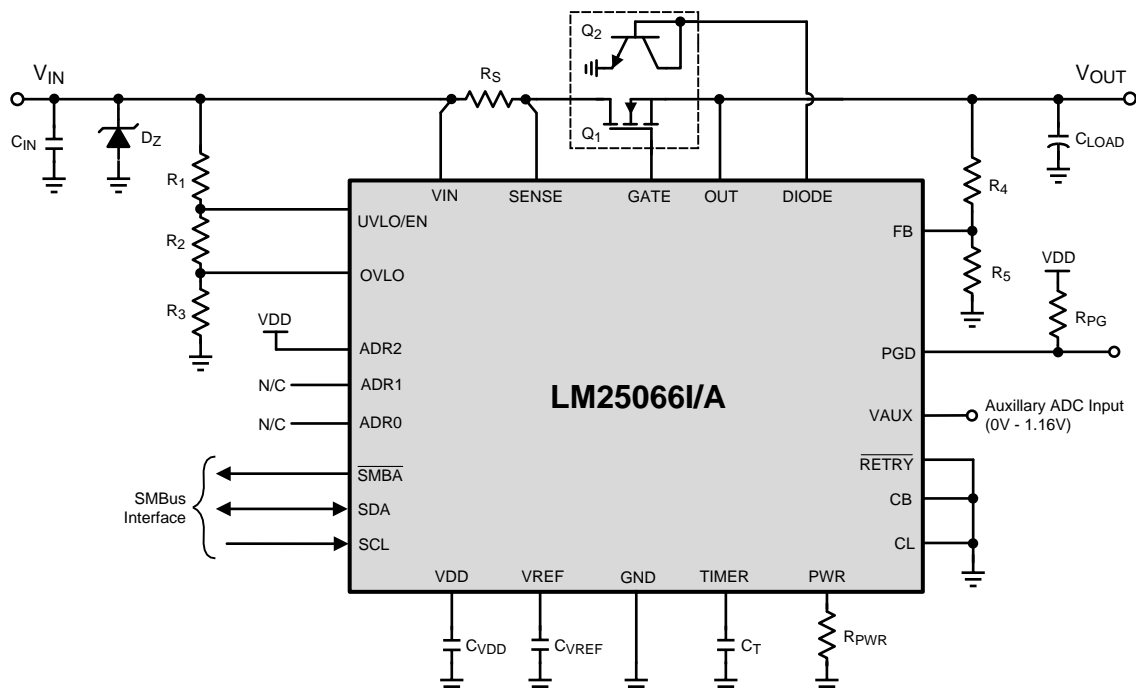
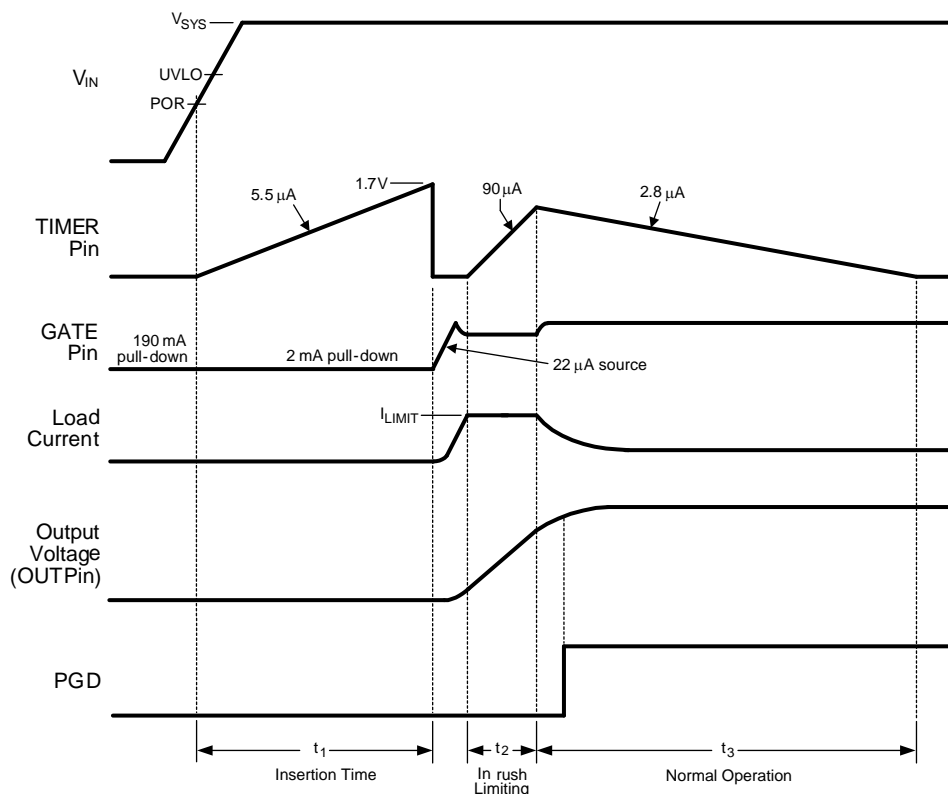

Figure 31. Typical Application Circuit
Figure 32. Power Up Sequence (Current Limit Only)
The V_{IN} operating range of the LM25066I/A is +2.9V to +17V, with transient capability to +24V. Referring to Figure 31 and Figure 32, as the voltage at V_{IN} initially increases, the external N-channel MOSFET (Q_1) is held off by an internal 190 mA pulldown current at the GATE pin. The strong pulldown current at the GATE pin prevents an inadvertent turn-on as the MOSFET’s gate-to-drain (Miller) capacitance is charged. Additionally, the TIMER pin is initially held at ground. When the V_{IN} voltage reaches the POR threshold, the insertion time begins. During the insertion time, the capacitor at the TIMER pin (C_T) is charged by a 5.5 μ A current source and Q_1 is held off by a 2 mA pulldown current at the GATE pin regardless of the input voltage. The insertion time delay allows ringing and transients at V_{IN} to settle before Q_1 is enabled. The insertion time ends when the TIMER pin
As the voltage at the OUT pin increases, the LM25066I/A monitors the drain current and power dissipation of MOSFET Q_1 . Inrush current limiting and/or power limiting circuits actively control the current delivered to the load. During the inrush limiting interval (t_2 in Figure 32), an internal 90 μ A fault timer current source charges C_T . If Q_1 's power dissipation and the input current reduce below their respective limiting thresholds before the TIMER pin reaches 1.7V, the 90 μ A current source is switched off and C_T is discharged by the internal 2.8 μ A current sink (t_3 in Figure 32). The PGD pin switches high when FB exceeds its rising threshold of 1.167V.
A charge pump provides the voltage at the GATE pin to enhance the N-Channel MOSFET's gate. During normal operating conditions (t_3 in Figure 32) the gate of Q_1 is held charged by an internal 22 μA current source. The voltage at the GATE pin (with respect to ground) is limited by an internal 18.8 V zener diode. See the graph "GATE Pin Voltage" shown previously. Since the gate-to-source voltage applied to Q_1 could be as high as 18.8 V during various conditions, a zener diode with the appropriate voltage rating must be added between the GATE and OUT pins if the maximum V_{GS} rating of the selected MOSFET is less than 18.8 V. The external zener diode must have a forward current rating of at least 190 mA. When the system voltage is initially applied, the GATE pin is held low by a 190 mA pulldown current. This helps prevent an inadvertent turn-on of the MOSFET through its drain-gate capacitance as the applied system voltage increases.
During the insertion time (t_1 in Figure 32) the GATE pin is held low by a 2 mA pulldown current. This maintains Q_1 in the off-state until the end of t_1 , regardless of the voltage at VIN or UVLO. Following the insertion time (t_2 in Figure 32), the gate voltage of Q_1 is controlled to keep the current or power dissipation level from exceeding the programmed levels. While in the current or power limiting mode, the TIMER pin capacitor is charging. If the current and power limiting cease before the TIMER pin reaches 1.7V, the TIMER pin capacitor then discharges, and the circuit begins normal operation. If the inrush limiting condition persists such that the TIMER pin reached 1.7V during t_2 , the GATE pin is then pulled low by the 190 mA pulldown current. The GATE pin is then held low until either a power up sequence is initiated (RETRY pin to VDD), or an automatic retry is attempted (RETRY pin to GROUND). See Fault Timer and Restart. If the system input voltage falls below the UVLO threshold or rises above the OVLO threshold, the GATE pin is pulled low by the 2 mA pulldown current to switch off Q_1 .
When the current limit or power limit threshold is reached during turn-on, or as a result of a fault condition, the gate-to-source voltage of Q_1 is controlled to regulate the load current and power dissipation in Q_1 . When either limiting function is active, a 90 μA fault timer current source charges the external capacitor (C_T) at the TIMER pin as shown in Figure 32 (Fault Timeout Period). If the fault condition subsides during the Fault Timeout Period before the TIMER pin reaches 1.7V, the LM25066I/A returns to the normal operating mode and C_T is discharged by the 1.9 mA current sink. If the TIMER pin reaches 1.7V during the Fault Timeout Period, Q_1 is switched off by a 2 mA pulldown current at the GATE pin. The subsequent restart procedure then depends on the selected retry configuration.
A) Insertion Delay -Upon applying the system voltage (V_{SYS}) to the circuit, the external MOSFET (Q_1) is held off during the insertion time (t_1 in Figure 32) to allow ringing and transients at V_{SYS} to settle. Since each backplane's response to a circuit card plug-in is unique, the worst case settling time must be determined for each application. The insertion time starts when VIN reaches the POR threshold, at which time the internal 5.5 μA current source charges C_T from 0V to 1.7V. The required capacitor value is calculated from: